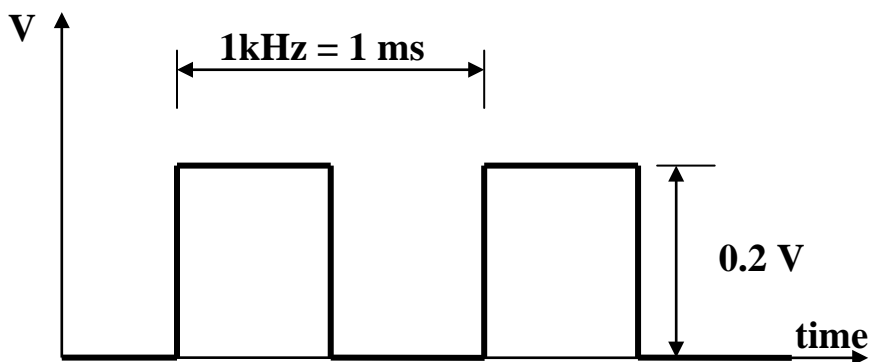

Figure 2
You should now have a clear, stationary square wave signal displayed on the screen. It should look like Figure 2, but it might not because we have to make sure that we have the scale set correctly and make some other adjustments.
6. Record these in Data Figure 2.
8. Record a sketch of what you see on the screen on your data sheet, in Data Figure 2.
Data Figure 2